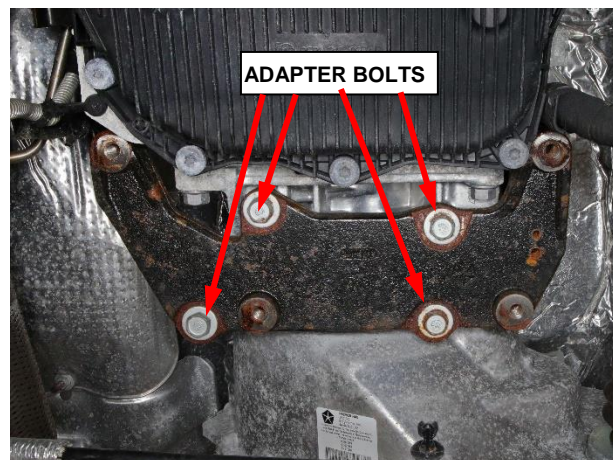

Figure 6 – Rear Engine Mount Bracket
70. Connect the PM sensor wire harness connector (1) (Figure 6).
16. Remove the four bolts and the rear engine mount bracket (Figure 6).